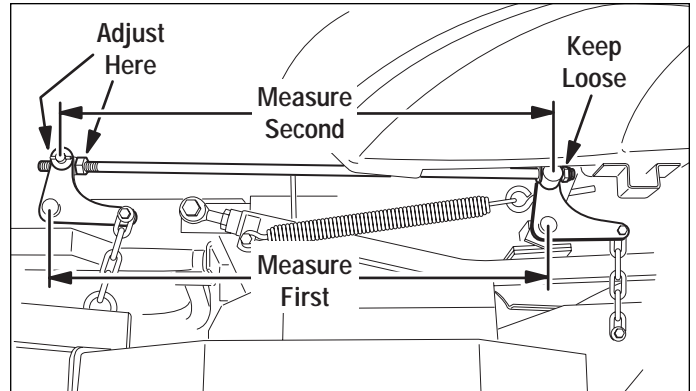

Figure 37. Measure & Adjust Lift Rod Timing
3. To check the lift rod timing, measure and record the distance between the lift pivots and the rod pivots. Repeat for other side of unit. See Figure 37.
5. Refer to Figure 37. To adjust the lift rods, adjust the 5/8" hex nuts on either side of the front lift pivot until the measurements are equal. Repeat for other side. Make sure the nylon lock nut on the end of the rod towards the rear of the machine is loose to allow the rod to turn in the rear lift pivot.